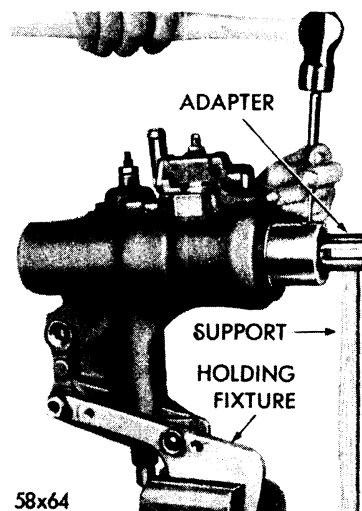

Fig. 13—Removing Coupling Pin
**NOTE:** Prior to disassembly, clean the gear assembly thoroughly in a suitable solvent and install unit in holding fixture C-3323 (Fig. 13).
Remove coupling pin (Fig. 13), and remove coupling.